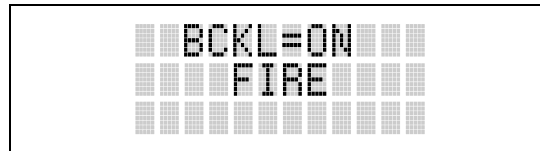

Figure 9-8: Backlight Menu Display
- Press **M**. The backlight menu item is activated. Line one shows the active menu item and its current parameter setting. Line two shows the currently selected system or group name (see Figure 9-8).